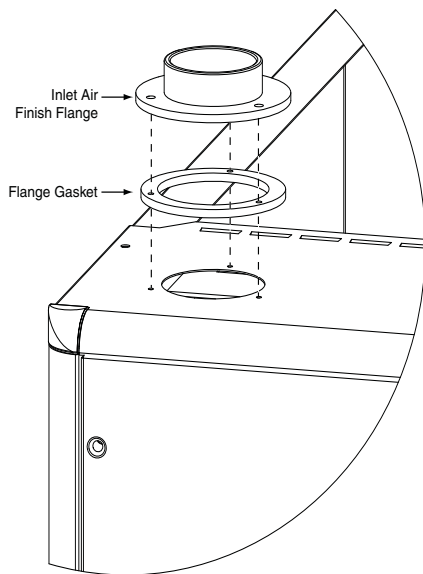

Figure 40. Finish Flanges
1. Position a flange gasket (Figure 40) on a finish flange, aligning screw holes in the gasket and flange.